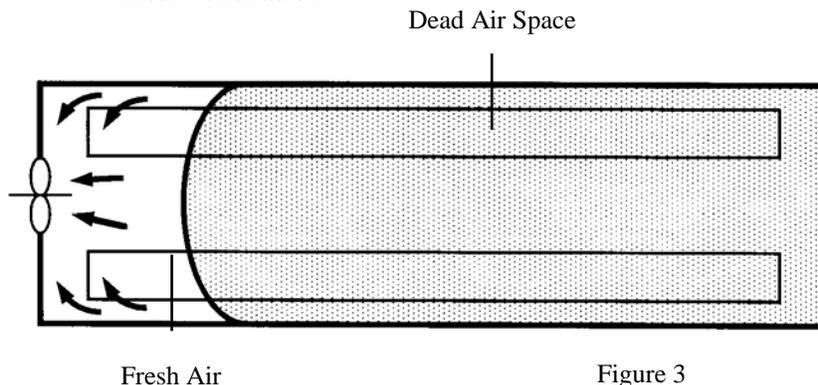

Figure 3. Tunnel ventilation is not a cold weather ventilation system.
- **Tunnel ventilation is a hot weather ventilation system and will not provide adequate air distribution at low winter ventilation levels.** (see figure 3) A slot inlet exhaust fan ventilation system with fresh air inlets for both rows of cows is needed for optimum winter ventilation.